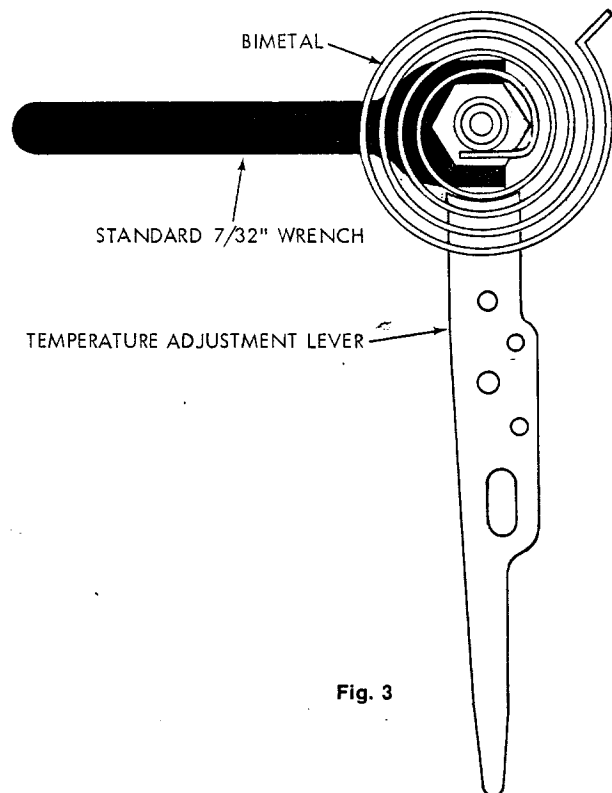

Fig. 3
2. Remove thermostat cover. Slip standard 7/32" wrench onto hex nut beneath bimetal, and, holding temperature adjustment lever stationary, turn hex nut **clockwise** until mercury shifts to right end of tube. (fig. 3)